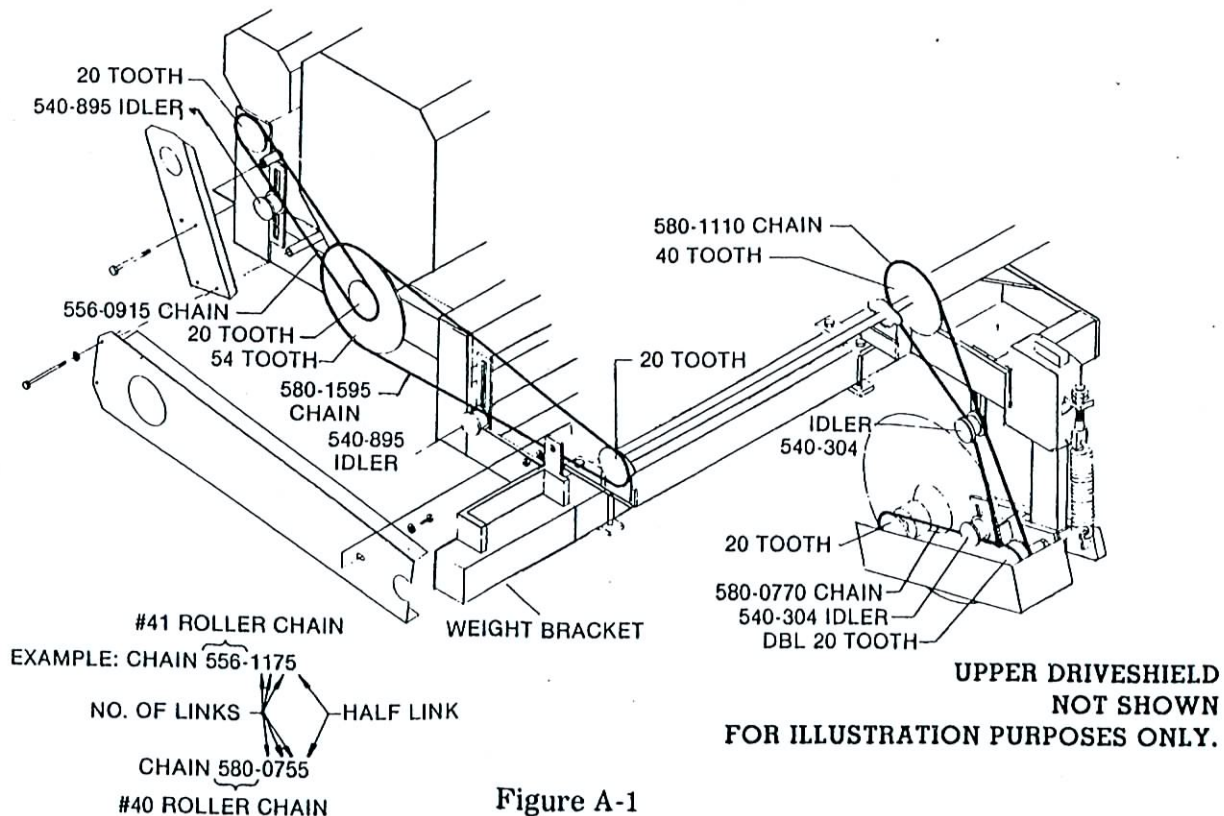

Figure A-1
1. Install chains and idlers (located inside hopper) as designated in Figure A-1 and insure alignment of sprockets. Each idler assembly **must** be installed as designated.
4. Install large chain shield to cover chain from jackshaft to large hopper sprocket; smaller shield to cover chain from hopper sprocket to legume box sprocket; and top shield to drive coultter. See Figure A-1.
2. Install chains and idlers (located inside hopper) as designated in Figure A-1 and insure alignment of sprockets. Each idler assembly **must** be installed as designated.